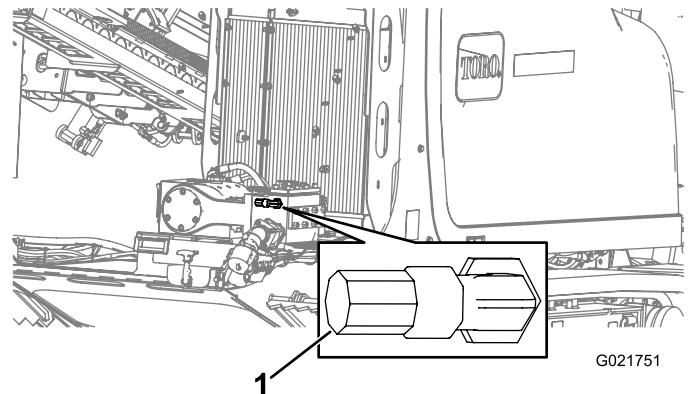

Figure 157
5. Connect the spray-hose attachment to the fitting (Figure 157).